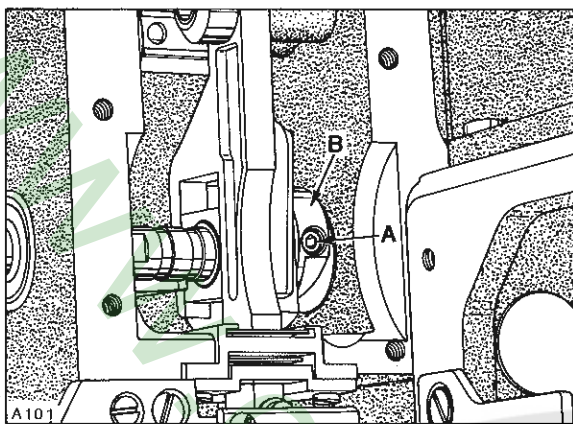
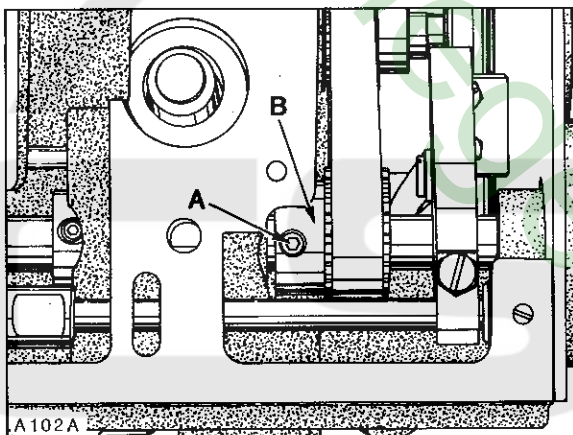

Fig. 2
Fig. 3
This can be accomplished by removing top cover, head cover, left cloth plate and top feed chamber cover. Rotate handwheel in operating direction to position needle bar at bottom of stroke. At this time, the first screw (A, Fig. 2) in the feed drive eccentric (B) must be on the flat of the feed drive shaft and in a vertical position. Adjustment can be made by loosening two screws (A, Fig. 3) in upper mainshaft sprocket (B). Hold the handwheel firmly with needle bar at bottom of stroke and rotate pulley as required to position screw (A, Fig. 2) so it is vertical. Tighten screws (A, Fig. 3) securely.